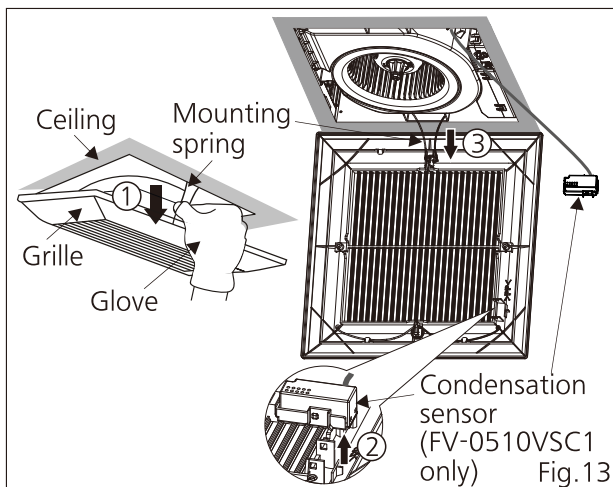

Fig.13
For model FV-0510VSC1 please remove one mounting spring from the grille on the condensation sensor side, then remove condensation sensor and the other mounting spring as show in Fig.13 ① ② ③ in P.10.